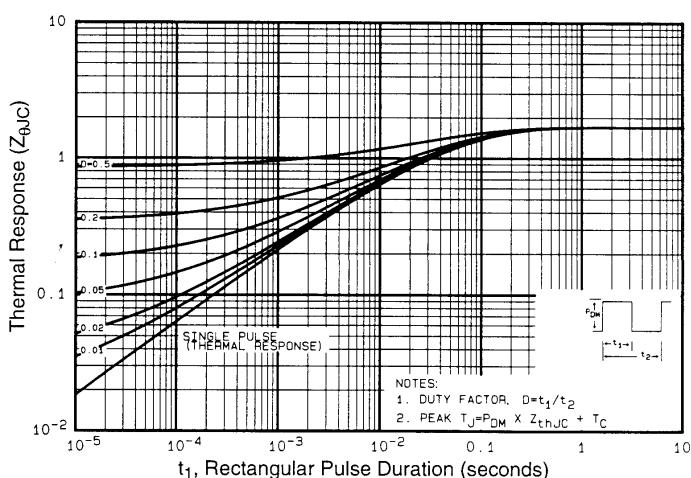

Fig 11. Maximum Effective Transient Thermal Impedance, Junction-to-Case
① Repetitive rating; pulse width limited by max. junction temperature (See Figure 11)
③ $I_{\text{SD}} \leq 5.5\text{A}$, $di/dt \leq 90\text{A}/\mu\text{s}$, $V_{\text{DD}} \leq V_{(\text{BR})\text{DSS}}$, $T_J \leq 150^\circ\text{C}$